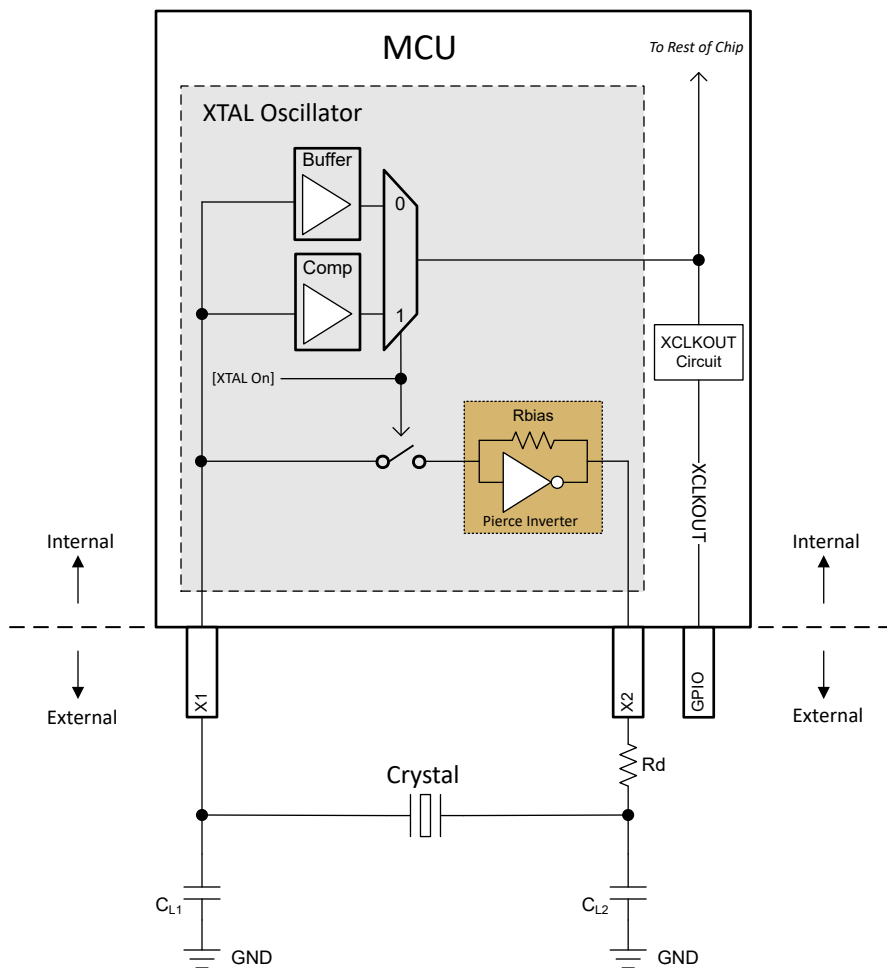

Figure 6-17. Electrical Oscillator Block Diagram
The electrical oscillator in this device is a Pierce oscillator. It is a positive feedback inverter circuit that requires a tuning circuit in order to oscillate. When this oscillator is paired with a compatible crystal, a tank circuit is formed. This tank circuit oscillates at the fundamental frequency of the crystal. On this device, the oscillator is designed to operate in parallel resonance mode due to the shunt capacitor (C0) and required load capacitors (CL). Figure 6-17 illustrates the components of the electrical oscillator and the tank circuit.
From Figure 6-17, CL_1 and CL_2 are in series; so, to find the equivalent total capacitance seen by the crystal, the capacitance series formula has to be applied which simply evaluates to $[CL_1]/2$ if $CL_1 = CL_2$.